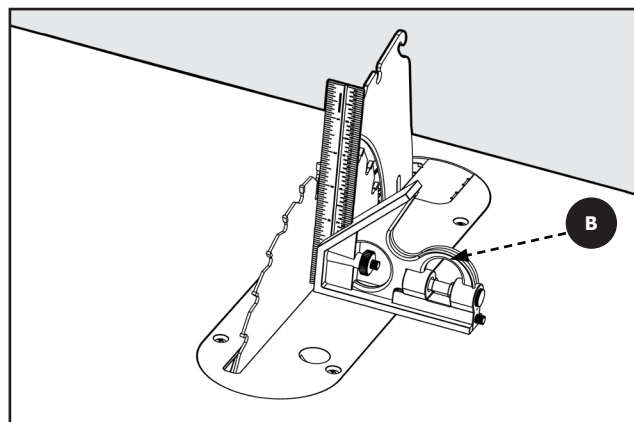

FIGURE 27
1. Place a combination square **B** against the table and the side of the blade, avoiding contact with the teeth. See Figure 27.